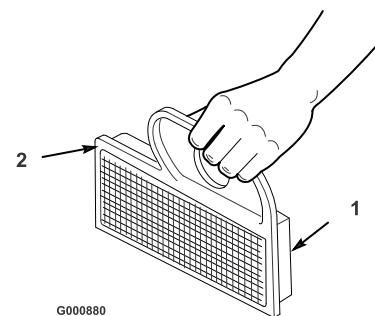

Figure 34
- A. Lightly tap the element on a flat surface to remove dust and dirt (Figure 34).